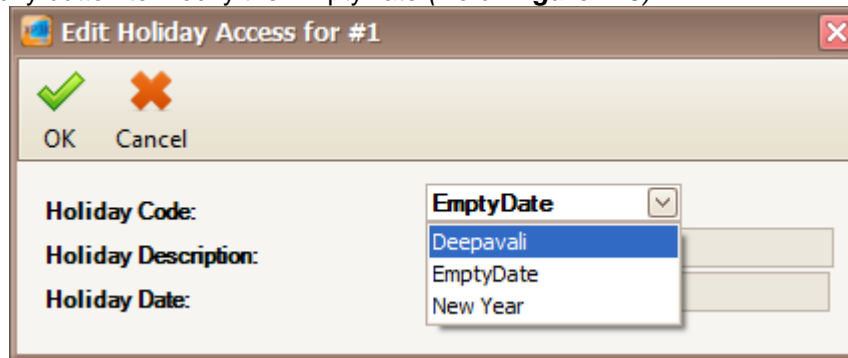

Figure 179 - Edit Holiday Access
- Click on Modify button to modify the EmptyDate (Refer **Figure 179**).